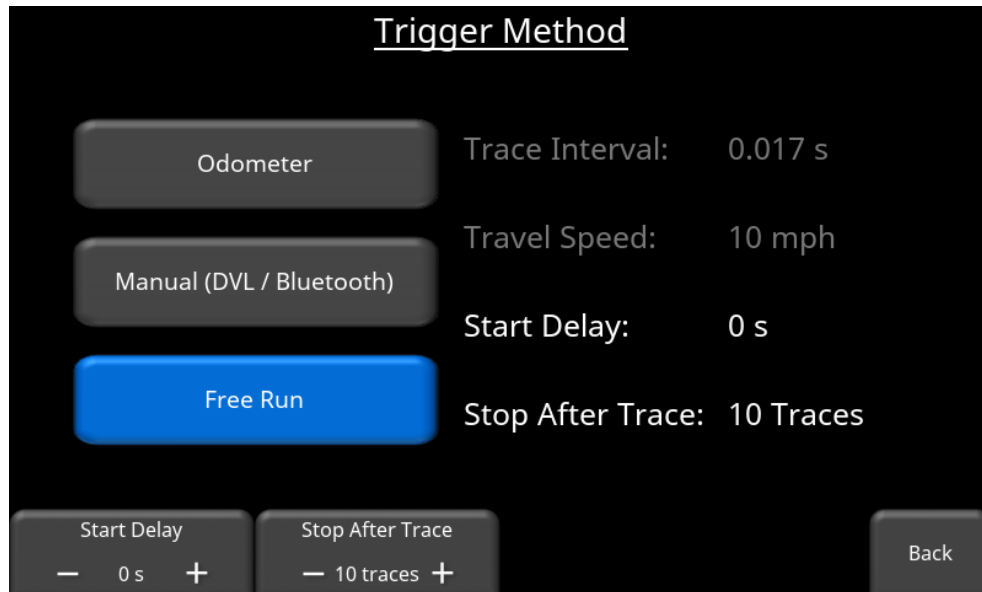

Figure 6-22: Pausing data collection after 10 traces
- **Stop After Trace** – Allows the user to define a set number of traces to collect before the system stops, giving the user an opportunity to make changes or adjustments, for example. Data collection on this line cannot be continued after this; a new line must be started. Use the + and – buttons to set the desired number of traces (Figure 6-22), or it can be set to **OFF**.